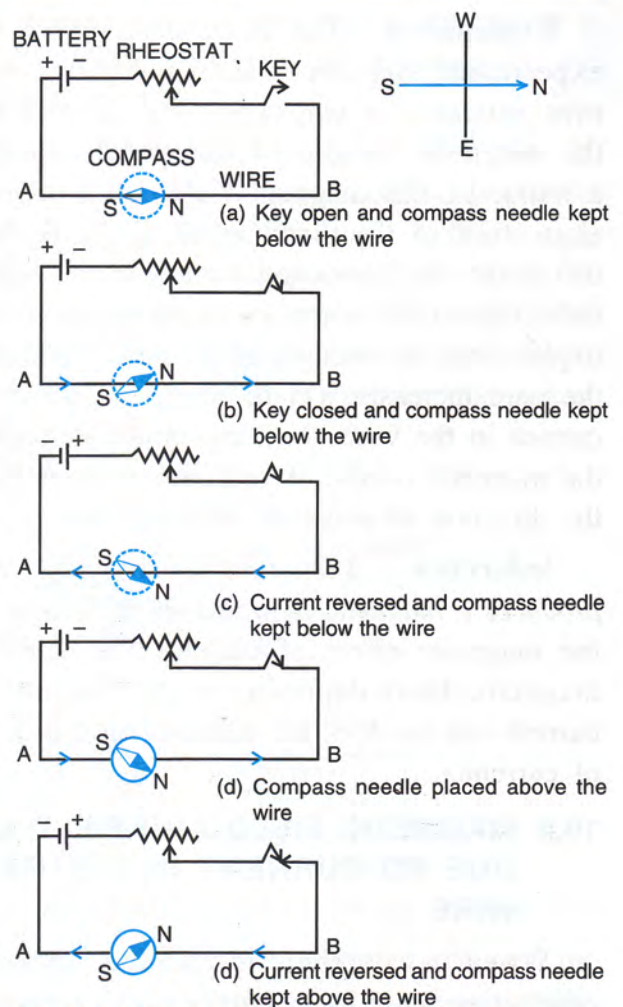

Fig. 10.1 Oersted experiment on the magnetic effect of current
Experiment : In Fig. 10.1, AB is a wire lying in the north-south direction and connected to a battery through a rheostat and a tapping key. A compass needle is placed just below the wire.
position, the needle is parallel to the wire as shown in Fig. 10.1 (a).
(2) When the key is pressed, a current passes in the wire in the direction from A to B (i.e., from south to north) and the north pole (N) of the needle deflects towards the west [Fig. 10.1 (b)]. If current in the wire is increased, the deflection of the needle also increases.
(3) When the direction of current in the wire is reversed by reversing the connections at the terminals of the battery, the north pole (N) of the needle deflects towards the east [Fig. 10.1 (c)].
(4) If the compass needle is placed just above the wire, the north pole (N) deflects towards east when the direction of current in wire is from A to B [Fig. 10.1(d)], but the needle deflects towards west as shown in Fig. 10.1 (e) if the direction of current in wire is from B to A.